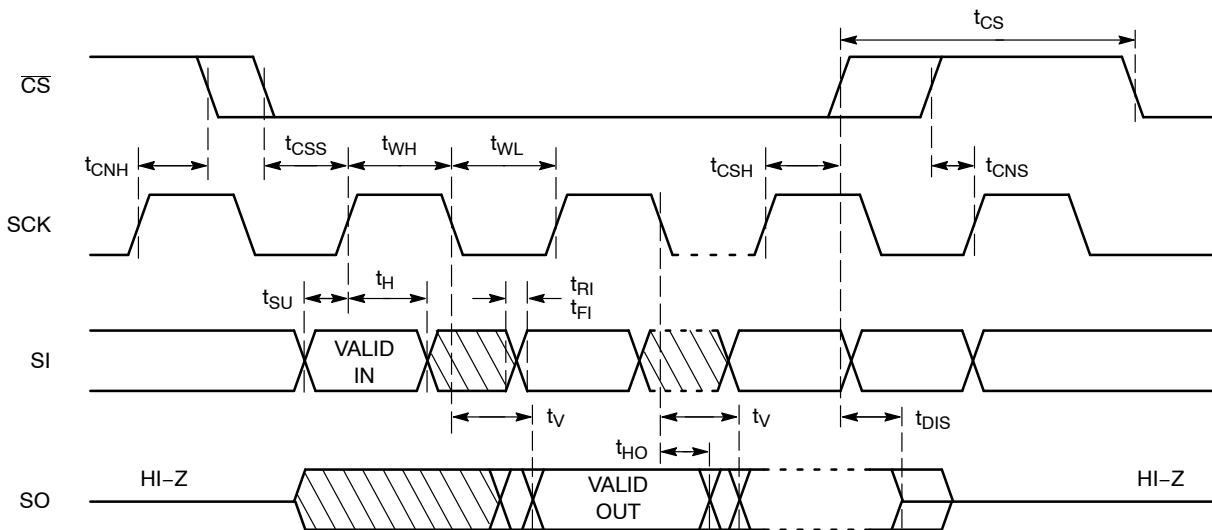

Figure 2. Synchronous Data Timing
7. **All Chip Select (CS) timing parameters are defined relative to the positive clock edge (Figure 2). t_{CSH} timing specification is valid for die revision C and higher. The die revision C is identified by letter “C” or a dedicated marking code on top of the package. For previous product revision (Rev. B) the t_{CSH} is defined relative to the negative clock edge (please refer to data sheet Doc. No. MD-1127 Rev. B).**
After a high to low transition on the $\overline{\text{CS}}$ input pin, the CAT25256 will accept any one of the six instruction op-codes listed in Table 7 and will ignore all other possible 8-bit combinations. The communication protocol follows the timing from Figure 2.